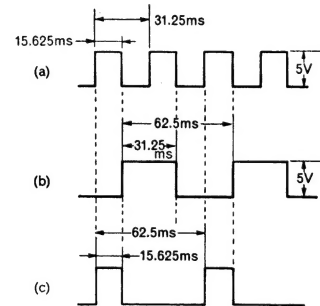
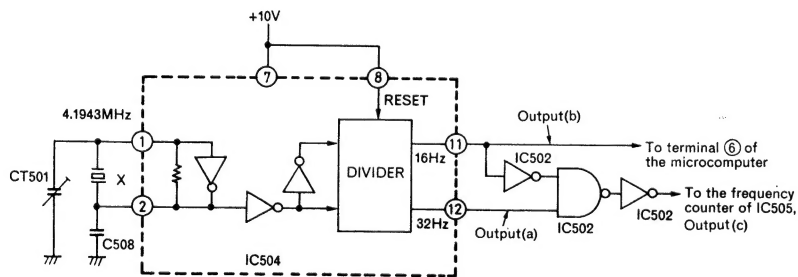

Fig. 5
Fig. 6
The 4.1943MHz crystal oscillator circuit and the divider circuit are composed of the crystal and IC504. A stable 16Hz pulse is output from terminal (11) of IC504, and the 32Hz stable pulse is output from terminal (12) of IC504. This pulse is the reference of the operations. The 16Hz pulse is input to terminal (6) of the microcomputer and the frequency counter. This is the reference pulse for updating the time and synchronizes the microcomputer and the operations of the peripheral circuit simultaneously. The 32Hz pulse is input to the NAND gate of IC502 as shown in Fig. 6 as the gate signal and the 16Hz pulse to the other input terminal, then pulses as shown in Fig. 5(c) are output. This pulse is input to the frequency counter of IC505 and resets the internal counter by every 16Hz.